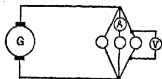

FIG. 51. Ammeter  $A$  indicates current taken by each lamp; voltmeter  $V$  indicates voltage across each lamp.
**Prob. 37-2.** In Fig. 51, the three lamps have practically the same resistance. Voltmeter ( $V$ ) reads 100 volts. Ammeter ( $A$ ) reads 0.45 ampere.